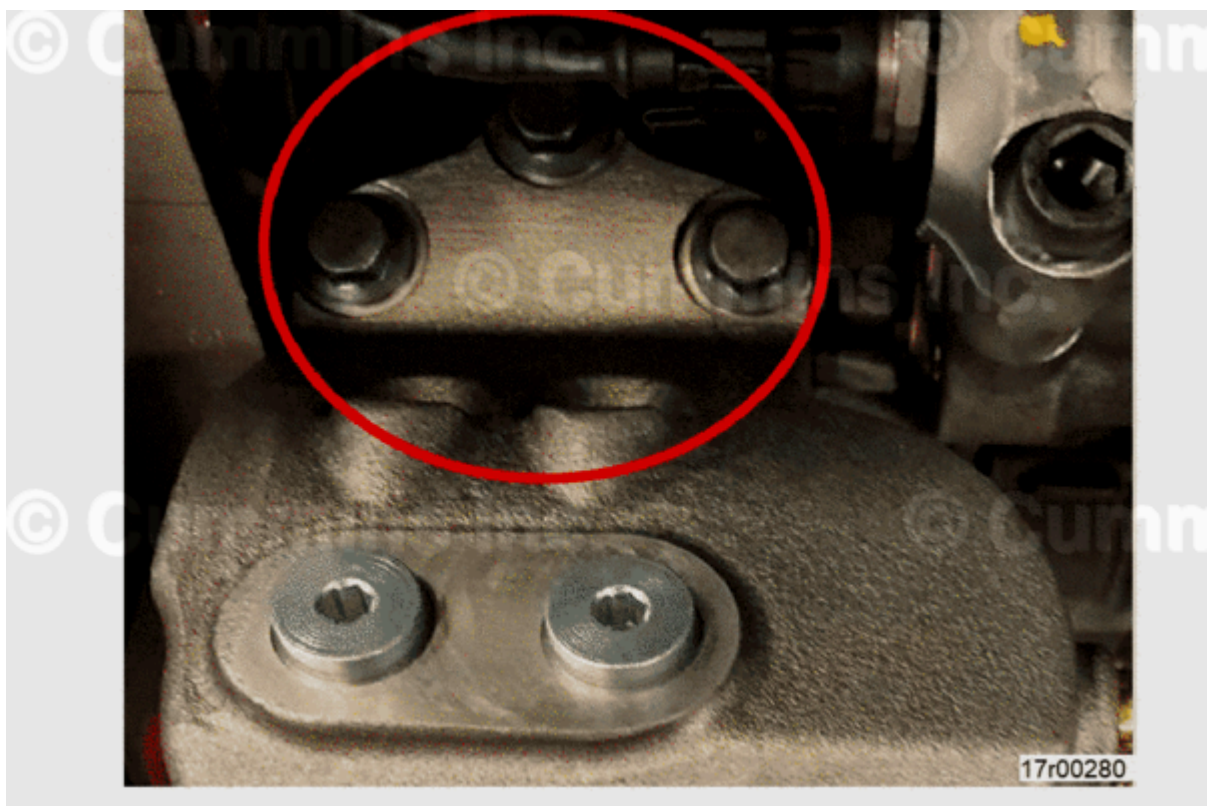

Figure 12, Capscrew Locations for Installation of Fuel Pump Lubricating Oil Filter Head.
2. Install fuel pump lubricating oil filter head to fuel pump with three capscrews. See Figure 12 above.